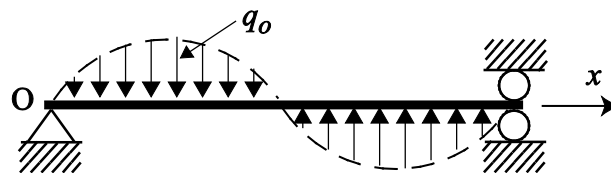

Figure 6
6. Figure 6 shows a simply-supported beam of length L , and an x -coordinate system. The non-uniform loading has intensity q :